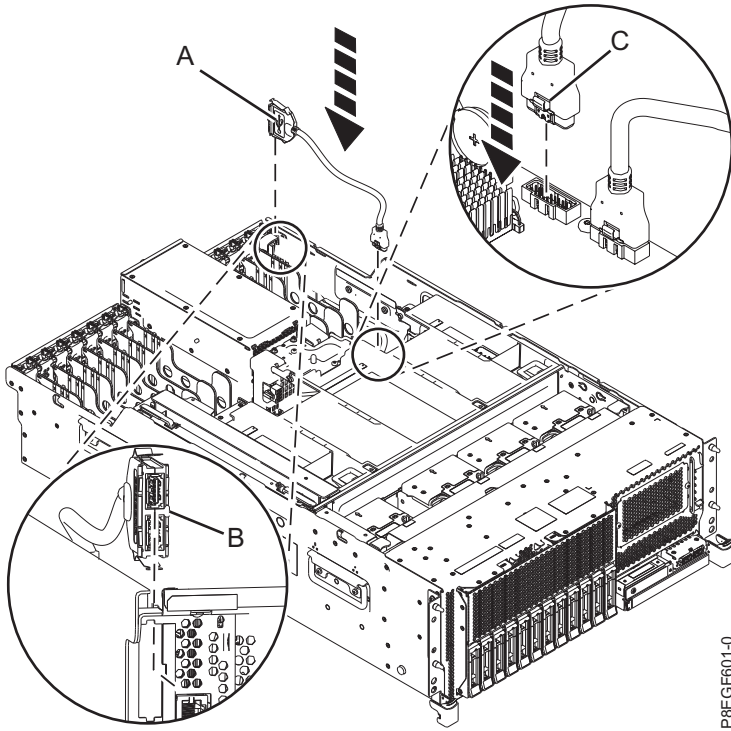
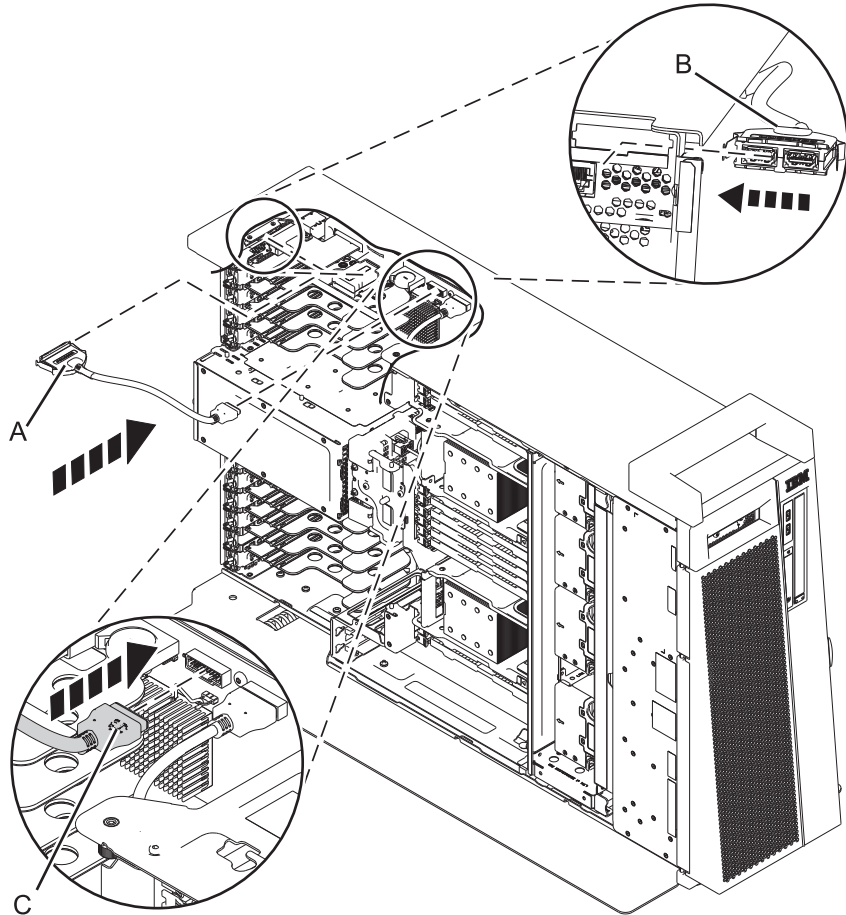

Figure 3. Replacing the rear USB cable
Figure 4. Replacing the rear USB cable in the stand-alone version of the 8286-41A
2. Insert the rear USB cable housing (A) into the opening on the rear of the system at location P1-T1, P1-T2, as shown in Figure 3 on page 6, or Figure 4 on page 7 for the stand-alone version of the 8286-41A.
4. Plug the other end of the rear USB cable (C) into the connector on the system backplane.